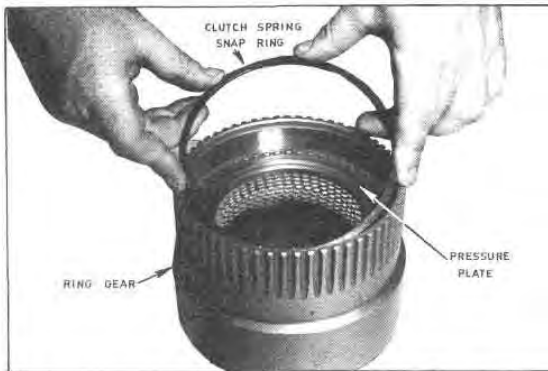

Fig. G57 — Install the Clutch Spring Snap Ring
15. Install the clutch snap ring squarely and firmly against the shoulder provided by the top of the internal splines (Figure G57).